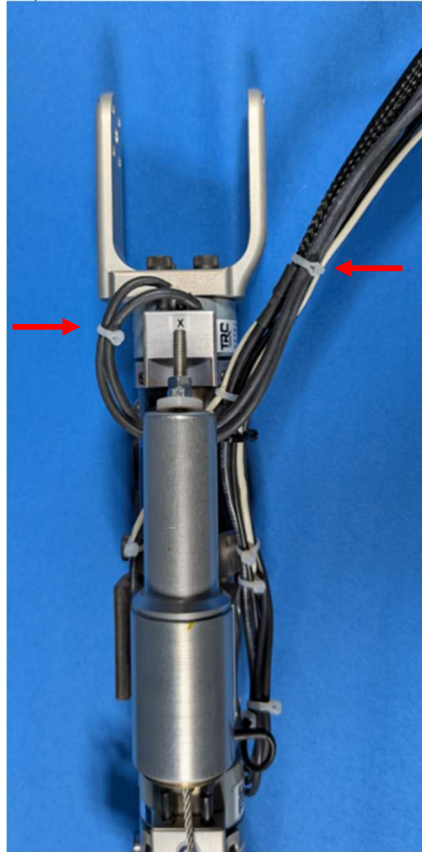

Figure 13-34. Upper tibia load cell wire routing and strain relief at the lower-leg bundle
13.4.4.2 Route the upper tibia load cell wires down and under the Achilles housing and strain relieve them to the rest of the lower leg instrumentation bundle with a tie wrap (Figure 13-34).